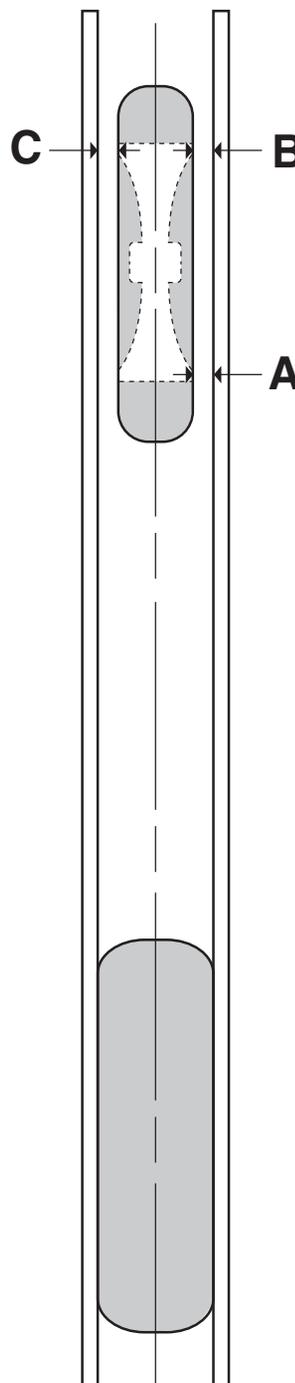

Figure 2-88. Wheel Alignment
5. See Figure 2-88. Straighten the front forks. From the front wheel rim, measure to the bar on one side of the motorcycle at the rear of the rim (A) and at the front of the rim (B) (two points). Straighten the front forks until the two measurements are equal (A = B).
7. See Figure 2-88. On the other side of the motorcycle, measure from the alignment bar to the front wheel rim (C) and compare measurement to that of the opposite side (B - C).
- a. See Figure 2-88. To straighten the front wheel, measure from the front wheel rim to the bar on one side at two points (A, B) along the wheel rim. Straighten the front wheel until the measurements are the same (A = B).
- c. On the other side, measure the from the rim to the bar (C) and compare (B - C) to the measurement from the opposite side. The measurements must be within +/- 6.35 mm (0.250 in.).